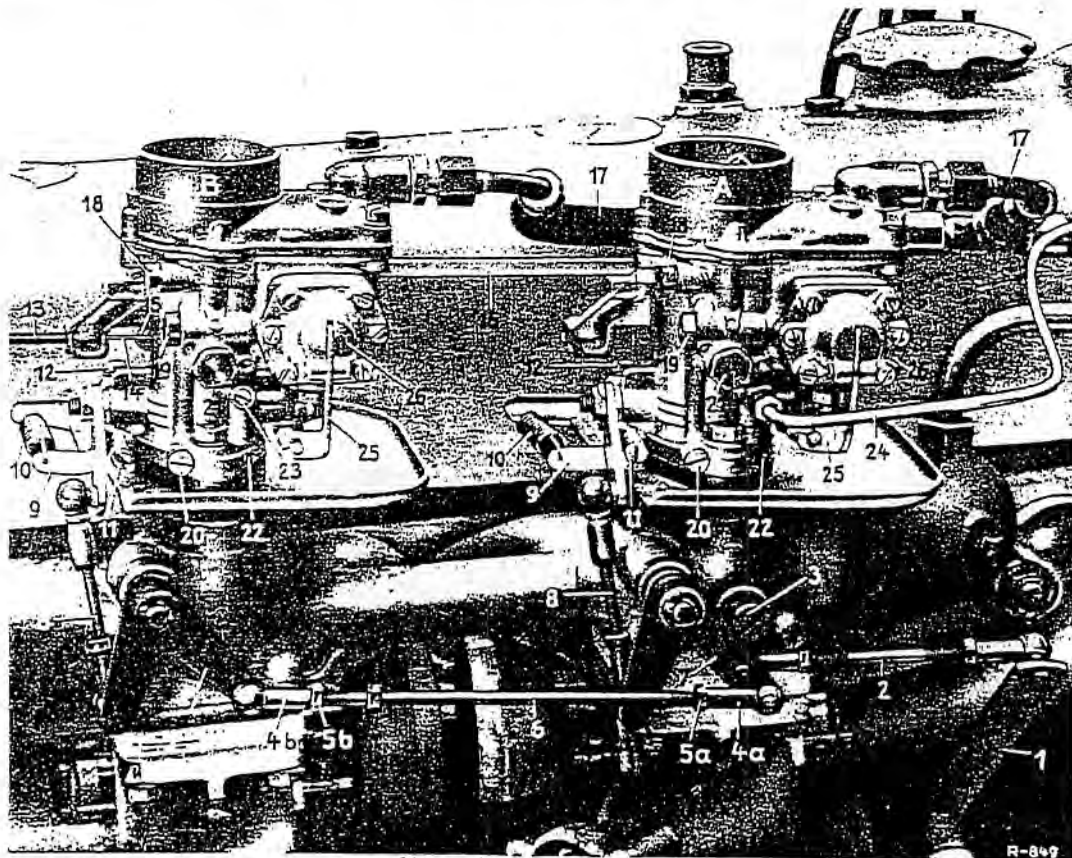

Fig. 00-13/2
1. Detach the push rods (2) and (6), check their length and adjust them. The length of push rod (2) should be 85 mm from center ball socket to center ball socket. The length of push rod (6) should be 188 mm from center ball socket to center ball socket. After adjustment apply grease to the ball sockets of the push rods (2) and (6) and press the ball sockets home again. Now detach the spring-loaded push rod (8) from the front and rear carburetors. Check the carburetor linkage and the throttle valve shafts for freedom of movement and if necessary detach the return springs (10) (Figs. 00-13/2 and 00-13/3).